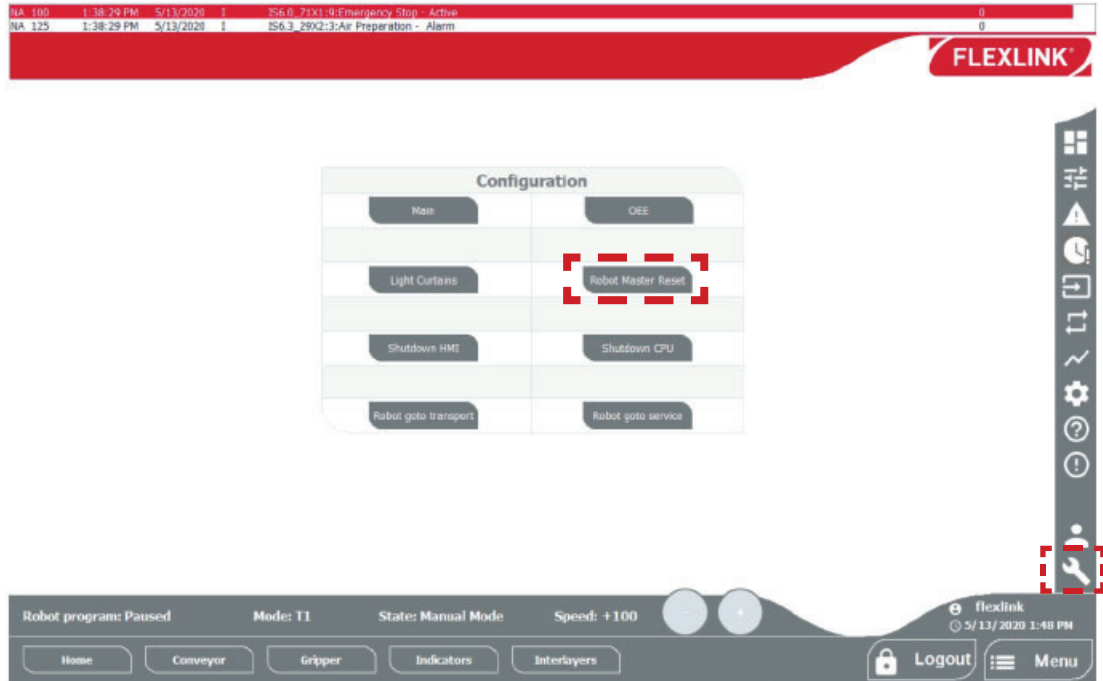

Figure 47 Location for reset.
- 8 Press the Reset button at the HMI main screen (see Fig. 47).